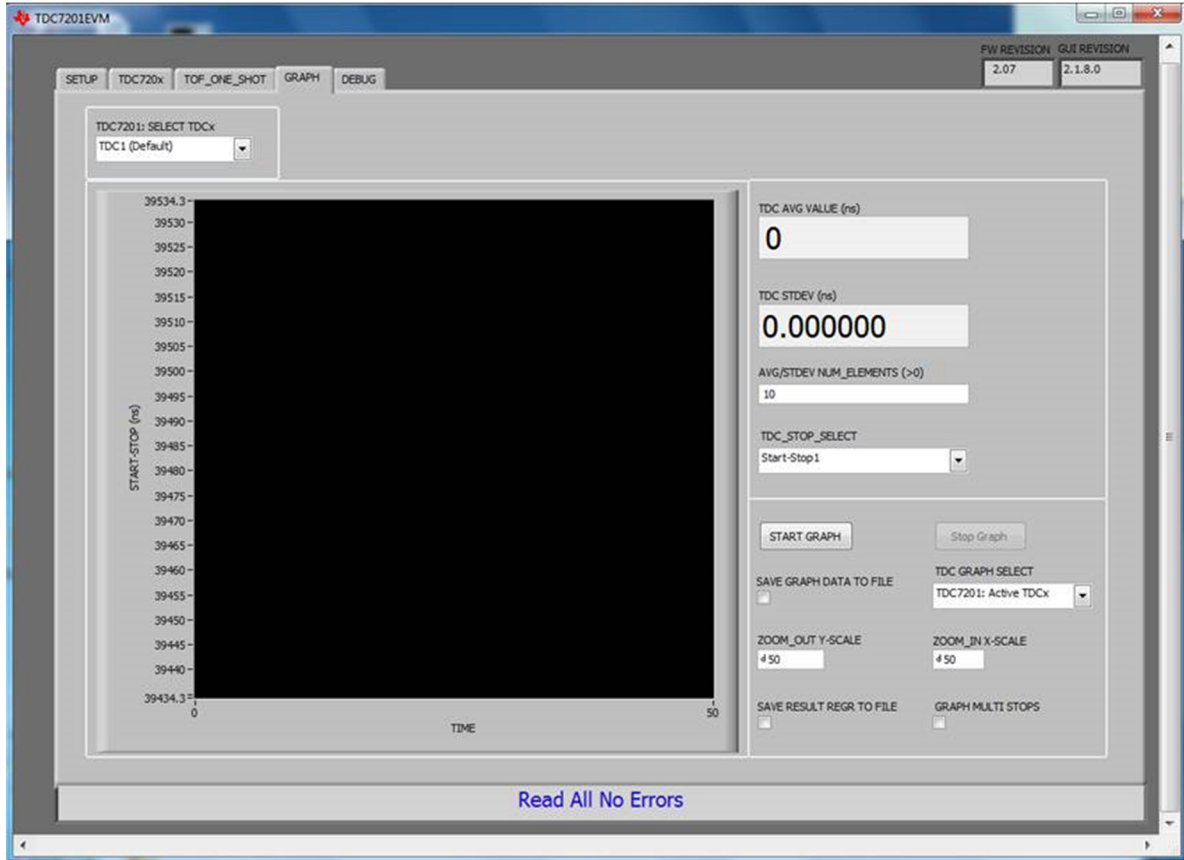

Figure 4. TDC720xEVM GUI
4. GUI should automatically connect and show the screen depicted in Figure 4.
- (ii) Disconnect USB-to-SMA cable connection to STOP_EXT1 (J4). Instead, reconnect channel 2 of the dual function generator to TDC7201EVM's STOP_EXT2 connector (J7). See Figure 4.